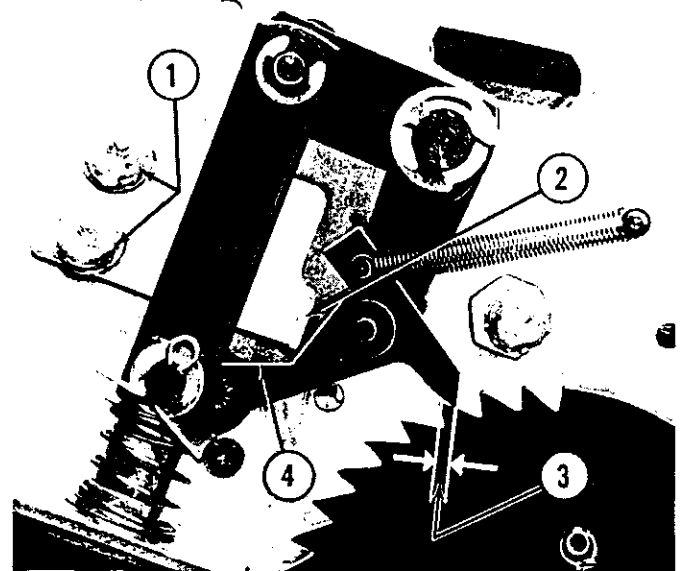

Fig. 15. STOP BRACKET ADJUSTMENT
(5) The cancel pawl stop bracket should be adjusted by means of its mounting screws to provide engagement of the cancel pawl with the adjacent cancel wheel tooth at a point about 1/3 of the slant surface of the tooth as shown in Figure 15. The bracket should be entirely free, from surface of the cancel pawl marked "No drag", during its entire cancellation action.